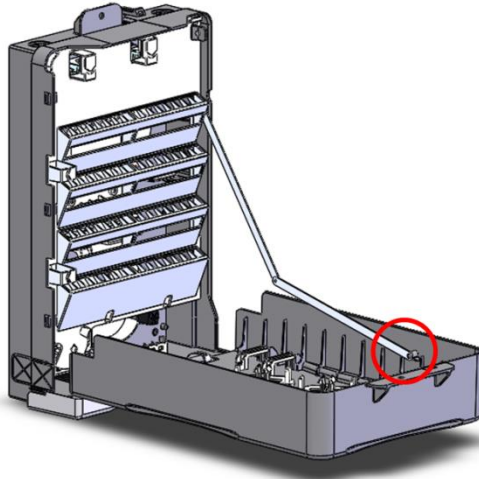

Fig.5
- 3.2.3. Unscrew the connecting rod from the base and the cover (Fig. 5);